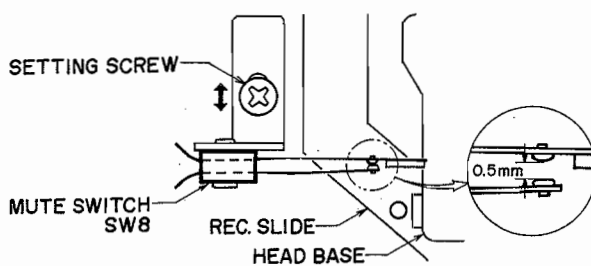

Fig. 17
7. MUTE SWITCH ADJUSTMENT (See Fig. 17)